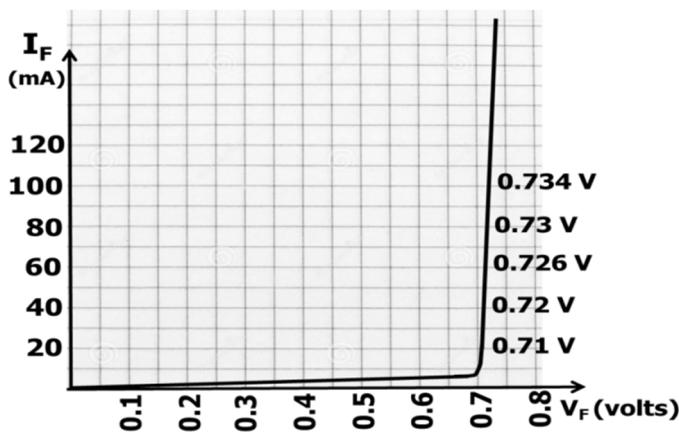

Fig 2.8
**Problem 2.4:** For the dynamic characteristic shown in fig 2.8, determine the dynamic resistance at 40 mA.